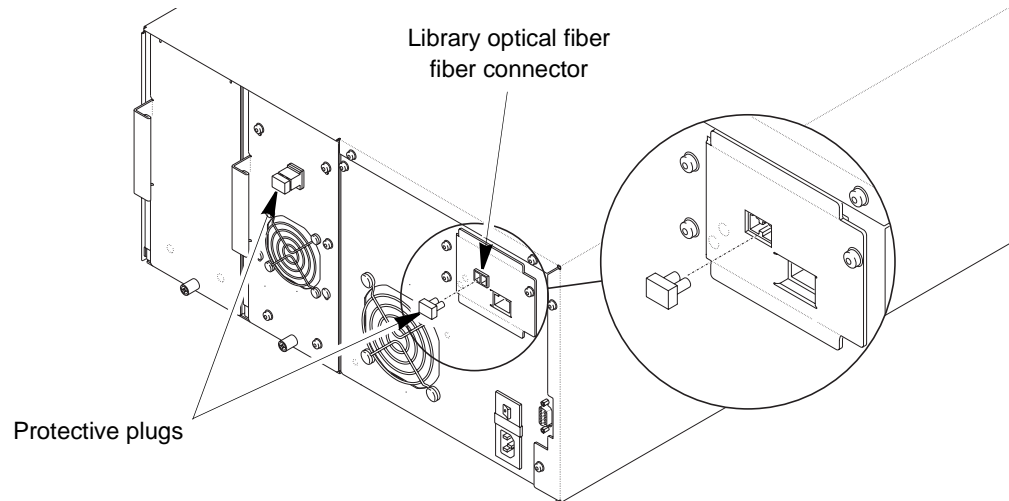

Figure 2-12 Removing the protective plugs from the optical fiber connectors
1. Remove the protective plugs (if present) from the library’s optical fiber connector and the optical connectors on each tape drive (see Figure 2-12).